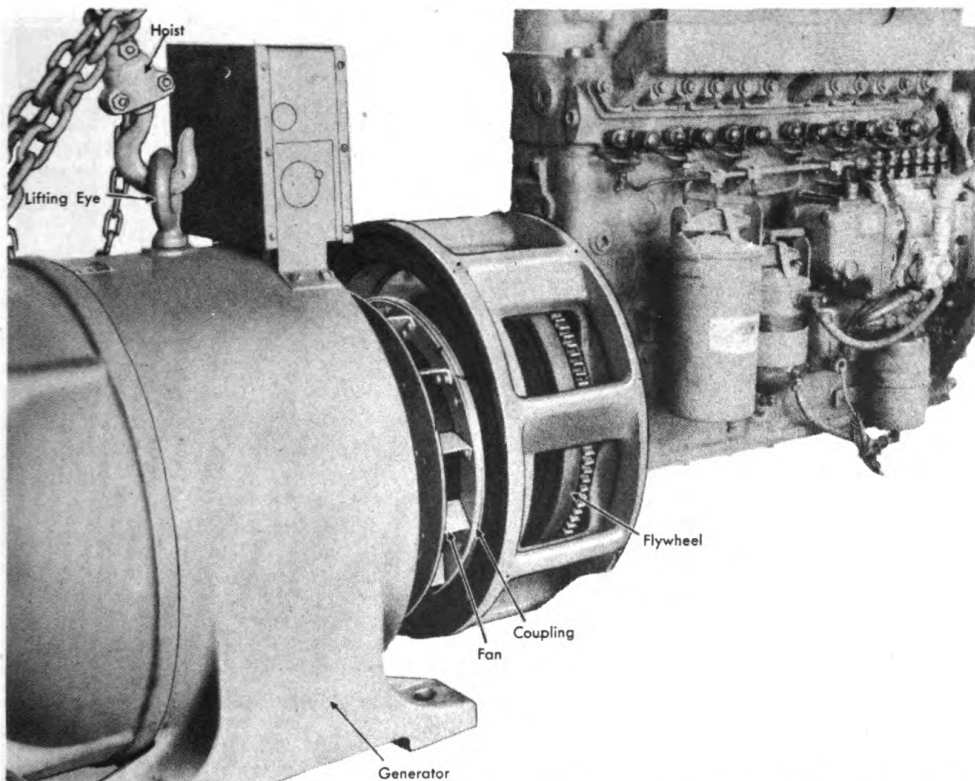

Figure 103. Left Side of 6-DTG-317, 30 K.W. Generator Set, showing location of Flywheel, Coupling, Fan, Lifting Hook, etc.
8. Remove the bolts that hold the flywheel housing and the generator together and pull the main generator away from the engine. See Figure 103.